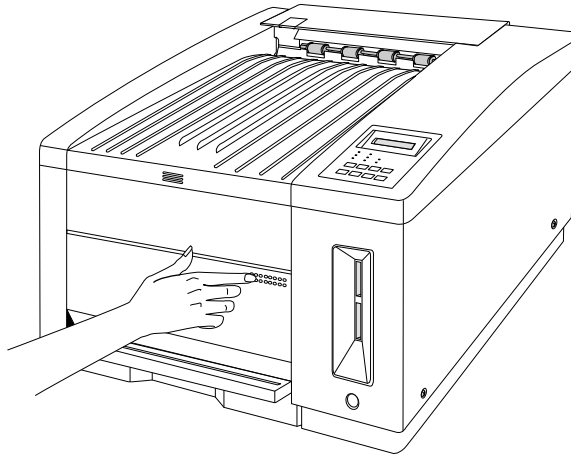

Fig. 5.2 *Open the Manual Feed Tray*
3. Open the manual-feed tray by lightly pressing on the top-right corner to release the spring latch (fig. 5.2) and then tilting the tray out and down.